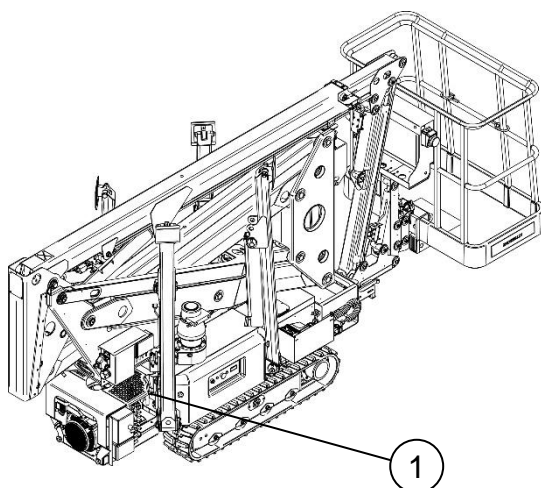

fig. 2.10.3
Positioned (*pos. 1 fig. 2.10.3*) on the base of the main solenoid valve. Prevents the maximum envisaged working pressure from being exceeded.